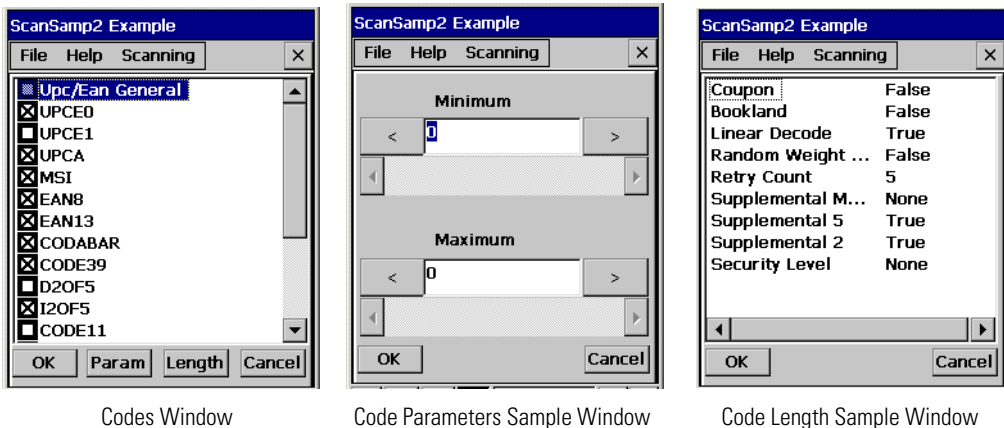

Figure 5-4. ScanSamp2 Examples
- To set parameters for a code type, tap the code type to highlight it and then tap **Param** to display the Code Parameters Sample Window, see Figure 5-4. Different code types will have parameter settings specific to that code type, so the windows will differ.
- To set length for a code type, tap the code type to highlight it and then tap **Length** to display the code length sample window, see Figure 5-4. Different code types will have length settings specific to that code type, so the setting windows will differ.